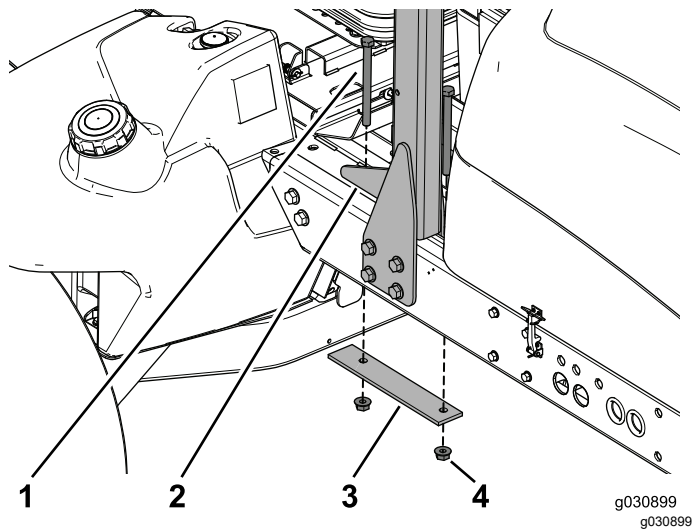

Figure 4
3. Remove and retain the 2 bolts, reinforcement plate, and 2 flange nuts securing the roll bar to the top of the frame (Figure 4).